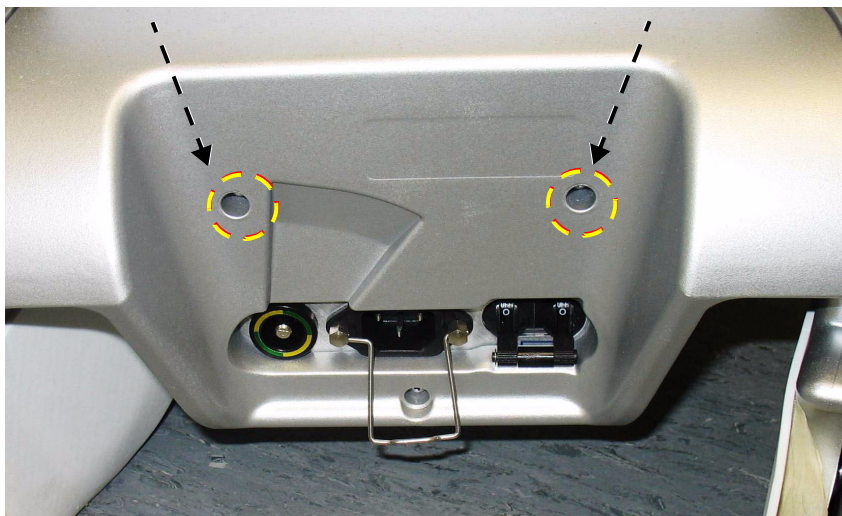
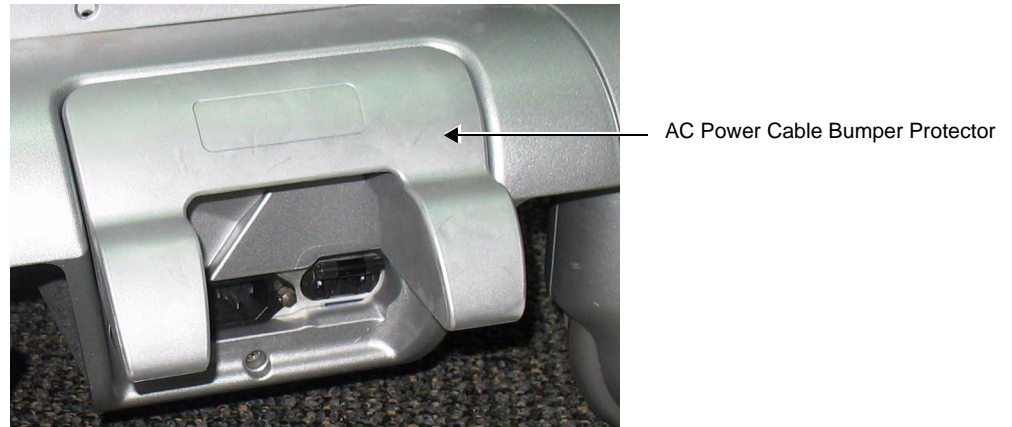

Figure 8-75 Screws for Removal on First-time Installation
Figure 8-77 AC Power Cable Bumper Protector Mounted on SafeLock Cart
- 1) From the rear of the SafeLock Cart, and using two hands, lift the AC Power Cable Bumper Protector *upwards* to release it from the shoulder screws - (refer to Figure 8-77 and Figure 8-75) .
NOTE: *If this is a first-time installation of the bumper protector, it is necessary to remove the two existing Phillips screws located on the rear of the SafeLock Cart (AC Cable connection area), as shown in Figure 8-75.*
- 2.) Insert a shoulder screw into each screw hole (refer to Figure 8-75).
- 3.) Mount the AC Power Cable Bumper Protector onto the shoulder screws by aligning the mounting tabs (ears) with the screws, then pushing the bumper *downwards* until it is seated securely. See Figure 8-77.